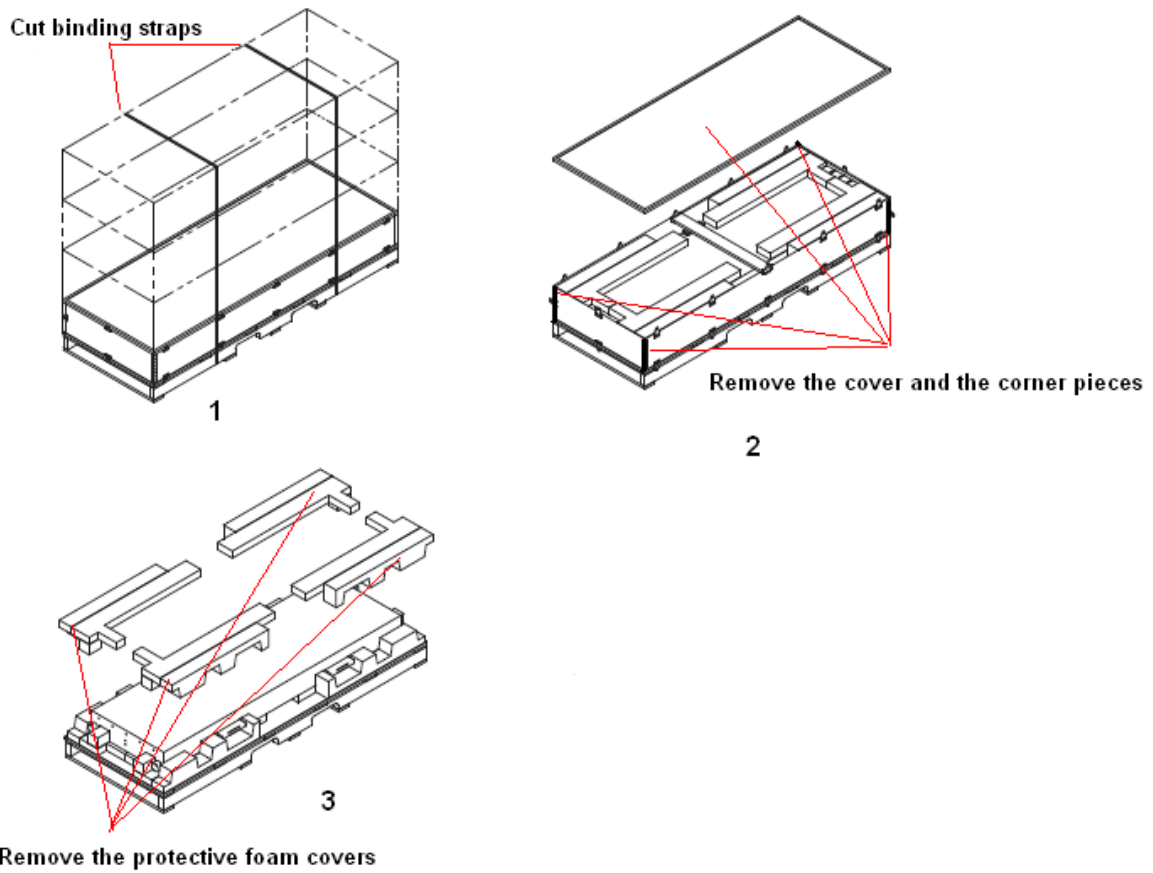
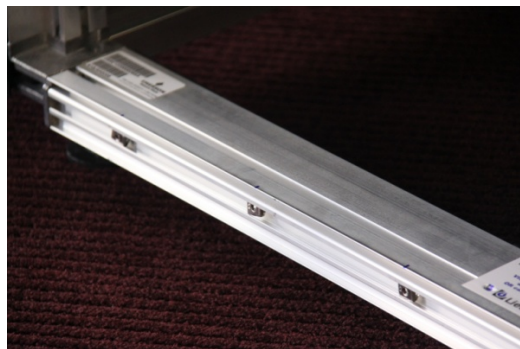

Figure 7 Unpacking Knürr DCD
Figure 12 Diamond nuts
This guideline only applies if you have bought Knürr DCD as a separate product (not being part of a rack already). If you bought the Knürr DCD as a part of the rack it would come already assembled. (In this case please proceed (after unpacking – Figure 7) to attaching the hose adaptor piece from beneath (Figure 12). The procedure described is valid for Knürr cabinet (DCM) only.
To unpack Knürr DCD (shipped separately) follow the instructions shown in Figure 7.
To unpack the Knürr DCD assembled to a DCM cabinet follow instructions shown in Figure 7.
- 5 Before proceeding to the next step, connect the hose adaptor piece (5/8 ") into the condensate tray (remove the white plastic plug first) (Figure 12).